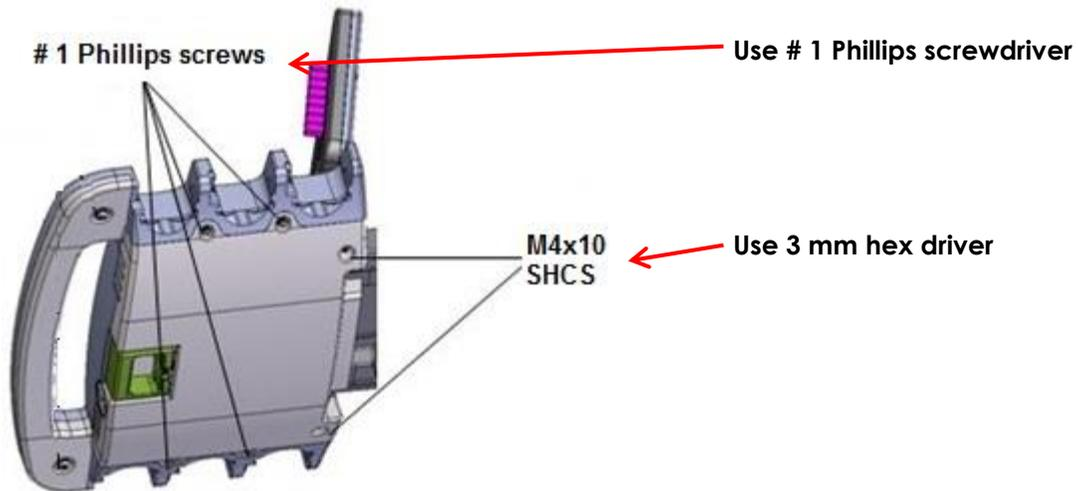

Figure 65: Lower Side of Control Panel
- From the *lower control panel*, remove the two types of screws at the lower side of the control panel to access the control panel PCB assembly (refer to Figure 65).